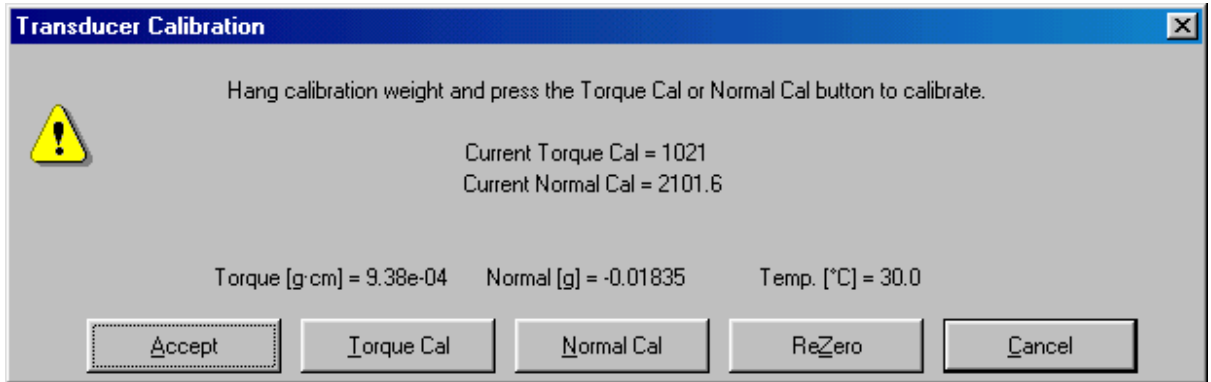

Figure 5-4. Transducer Calibration Form
10. Select the "XducerCal" button. Establish a zero torque reference value by selecting the "Zero" button. Wait about 30 seconds, during which time the instrument takes several readings to establish a zero normal reference. When zeroing is completed, the *Transducer Calibration* form is displayed (Figure 5-4). The zero value displayed in this form should be less than 0.1% of the full scale Torque value.
15. Verify that the **Torque** value displayed on the *Transducer Calibration* Form (Figure 5-4) is within the limits for the TORQUE VALUE shown in Table 5-3, depending on the transducer in use. Verify that the **Current Torque Cal** value displayed in the *Transducer Calibration* Form is within the limits for the CALIBRATED FULL SCALE VALUE shown in Table 5-3.
7. Select the "XducerCal" button. Establish a zero torque reference value by selecting the "Zero" button. Wait about 30 seconds, during which time the instrument takes several readings to establish a zero torque reference. When zeroing is completed, the *Transducer Calibration* form is displayed (Figure 5-4).
12. Verify that the **Normal** value displayed on the *Transducer Calibration* Form (Figure 5-4) is within the limits for the NORMAL FORCE VALUE shown in Table 5-4, depending on the transducer in use. Verify that the **Current Normal Cal** value displayed in the *Transducer Calibration* form is within the limits for the CALIBRATED FULL SCALE VALUE shown in Table 5-4.